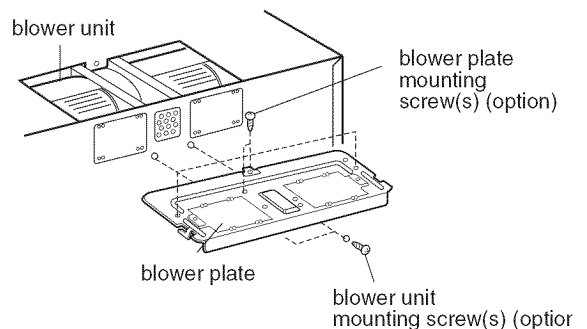

Figure 21
6. Reattach blower plate to microwave oven. Attach with the blower unit mounting screw(s) and then the blower plate mounting screw(s). See **Figure 21**.